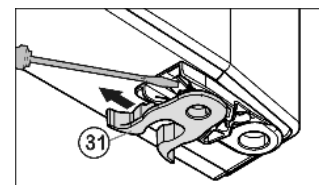

Fig. 6
- ▶ Transfer the spring clamp Fig. 6 (31): Depress the latch nose and pull the spring clamp off over it.